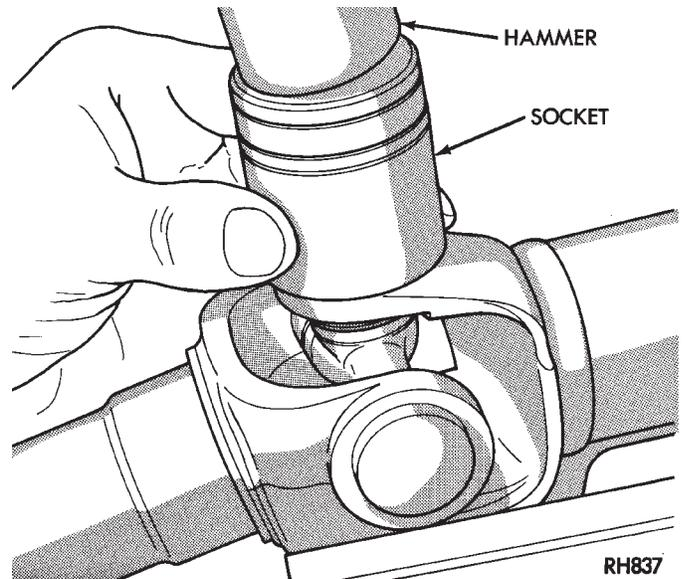

Fig. 4 Disassemble Universal Joint
- (1) Mark relationship of shaft to shaft to ensure proper alignment at assembly. Apply penetrating oil to bushings and remove snap rings.
- (2) Support yoke in vise and place a socket large enough to receive bushing on top of yoke. A 1-1/8 inch socket is suitable (Fig. 4).
- (3) Striking socket with hammer will cause yoke to move down and bushing to move up out of yoke into socket.
- (4) After removing one bushing, turn parts in a vise and remove other bushing in same manner.